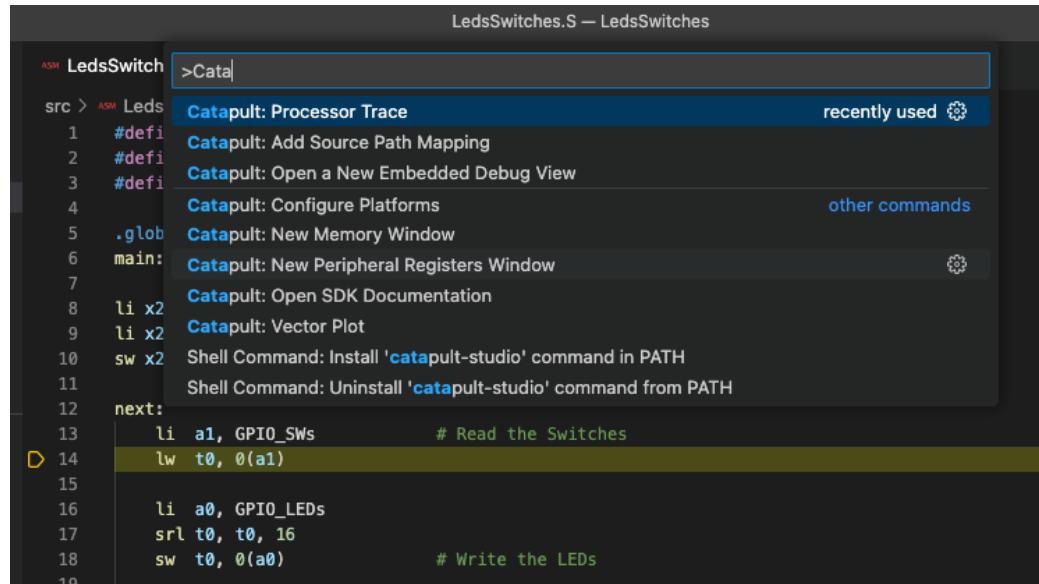

Figure 47: Using the command palette to access embedded debug features
- b. Press CTRL-Shift-P (CMD-P on Mac) to bring up the Catapult Studio command palette. (Note that the P must be upper-case). Start typing “Catapult” to get a list of Catapult-specific commands, then select “Catapult: New Peripheral Registers Window” (Figure 47).